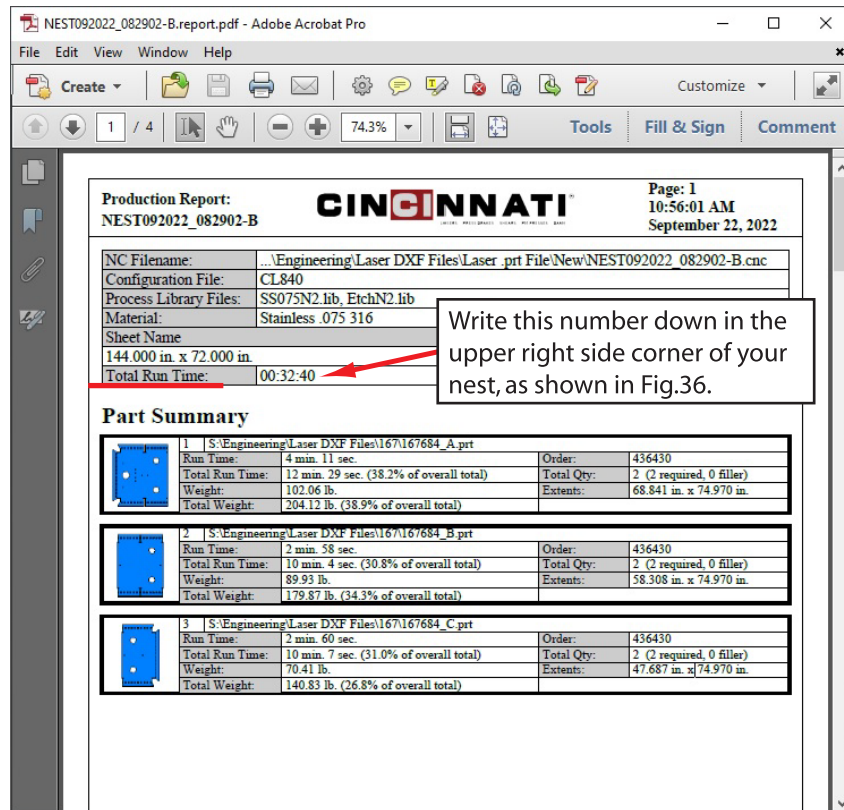

Fig.35
- 42) Next you will click on the “View Report” button and it will open a PDF nesting report showing the nest and all kinds of information (Fig.35 below). We will not use this report to go down to the floor as we will be taking the nest page/s you already printed out (and put the cut-off dimension on) for the Laser Operator to use. However, we WILL use one bit of info on the report. At the top section of the report there is a “Total Run Time” number on it that you will also need to write down on the nest, at the top of the nest, in the upper righthand corner area. See Fig.35 below.